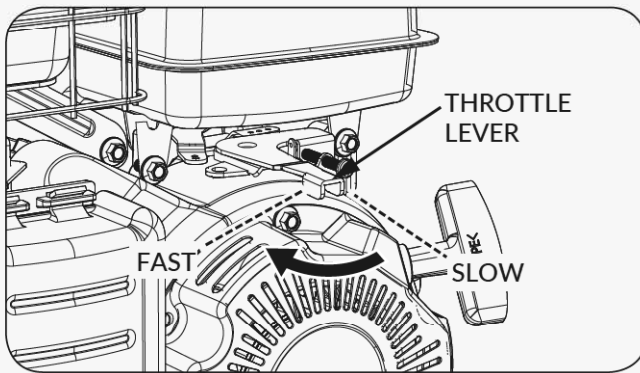

Figure 11
3. Move the throttle lever away from the SLOW position, about 1/3 of the way toward the FAST position. (see **Figure 11**)